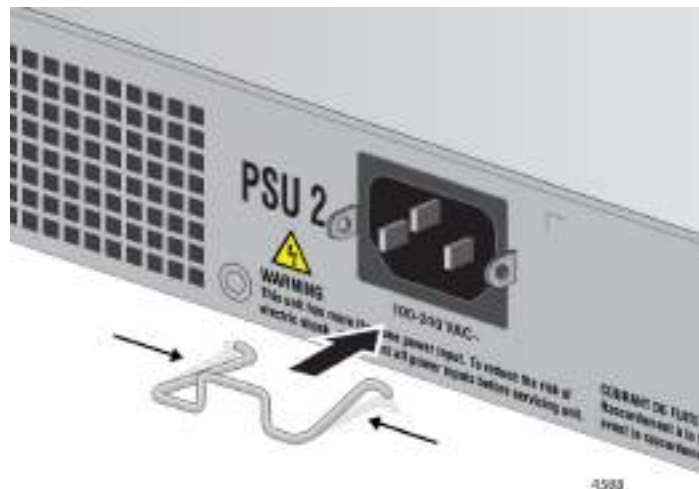

Figure 37. Installing the Power Cord Retaining Clip
1. Install the power cord retaining clip on the AC power connector on the rear panel of the switch. Refer to Figure 37.